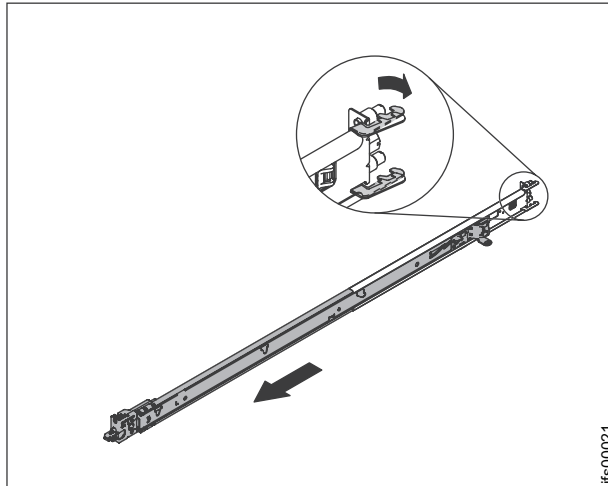

Figure 37. Opening the rear slide rail hooks
3. Each slide rail is marked with either an R (right) or an L (left). Select one of the slide rails and pull the rear bracket all the way back. If a thumbscrew is installed in the slide rail, remove it. Refer to Figure 37 on page 82.